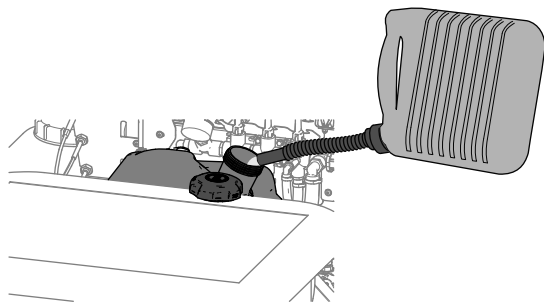

Figure 16
3. Clean around the fuel-tank cap and remove it (Figure 16).
4. Fill the tank with fuel (Figure 16) to the bottom of the filler neck. **Do not fill into the filler neck of the tank.**